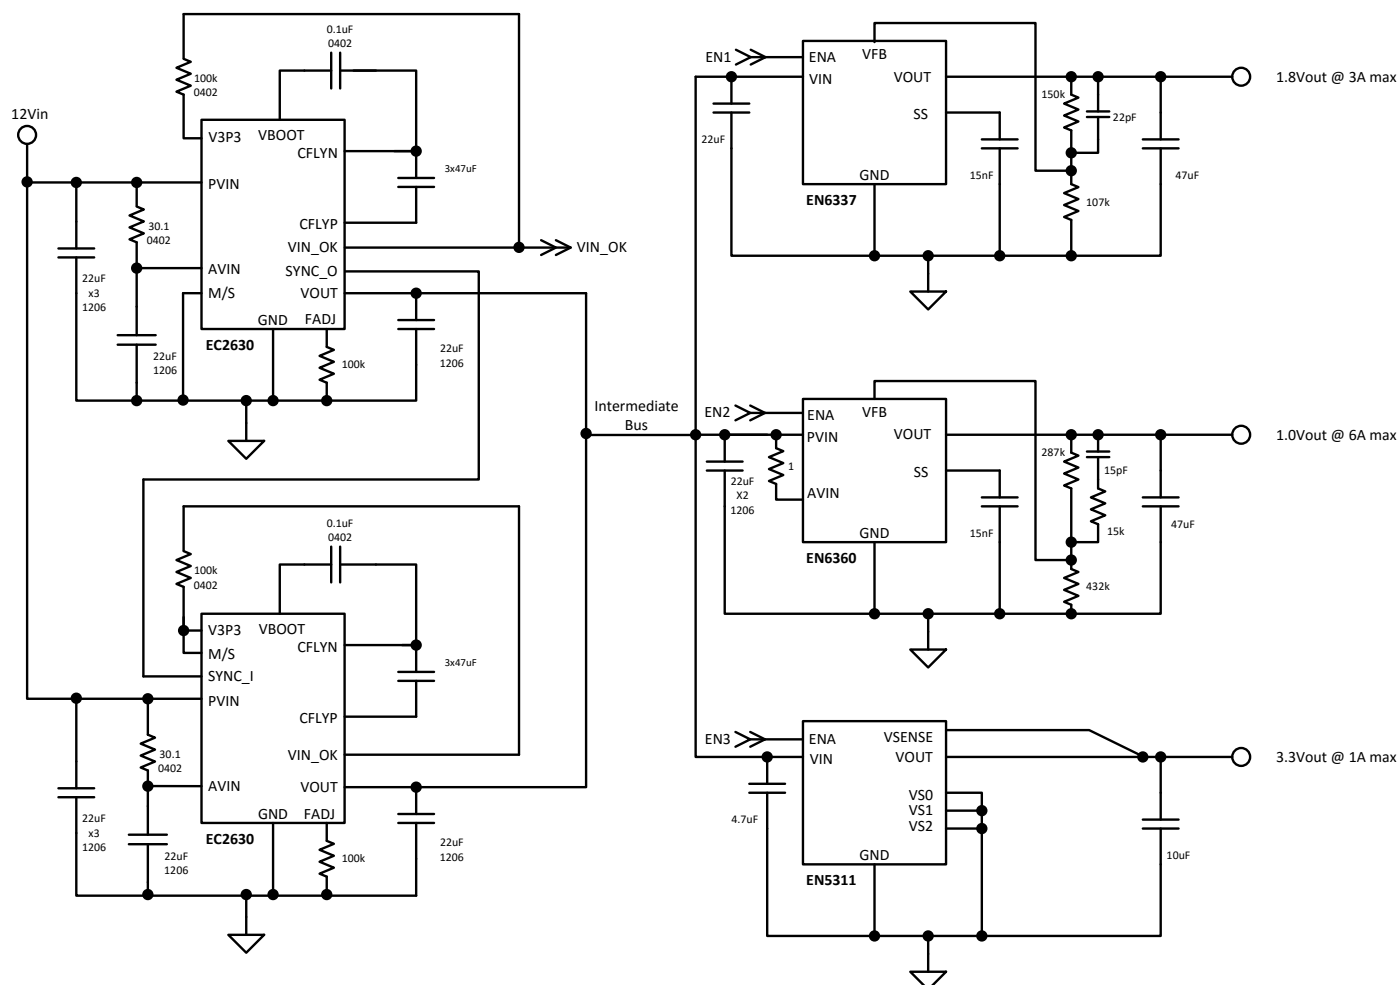

**Figure 5.** EC2630 connected to a 12V input supply and supplying 3 point-of-load Altera Enpirion DC-DC switchers
**NOTE:** The device must not be loaded during startup and shutdown (see Figure 5 description).
Figure 5 shows a typical application where the EC2630 is powering three downstream Altera Enpirion point-of-load (POL) converters. The EC2630 VIN\_OK signal, along with a sequencer if necessary, may be used to control the ENABLE pins of the downstream devices based on the application's sequencing requirements. The sequencing has to ensure that the intermediate bus voltage is fully available before the PoL converters start switching. Similarly, ensure that the downstream converters are disabled and there is no load on the bus converter's output before the bus converter passes through its UVLO region (specified in the Electrical Characteristics table) when turning off. Failure to follow the sequencing requirement might result in improper operation during start-up and/or shut-down. In addition, it is required to use only Altera's Enpirion PoL converters rated for up to 6.6V input voltage operation as downstream devices.